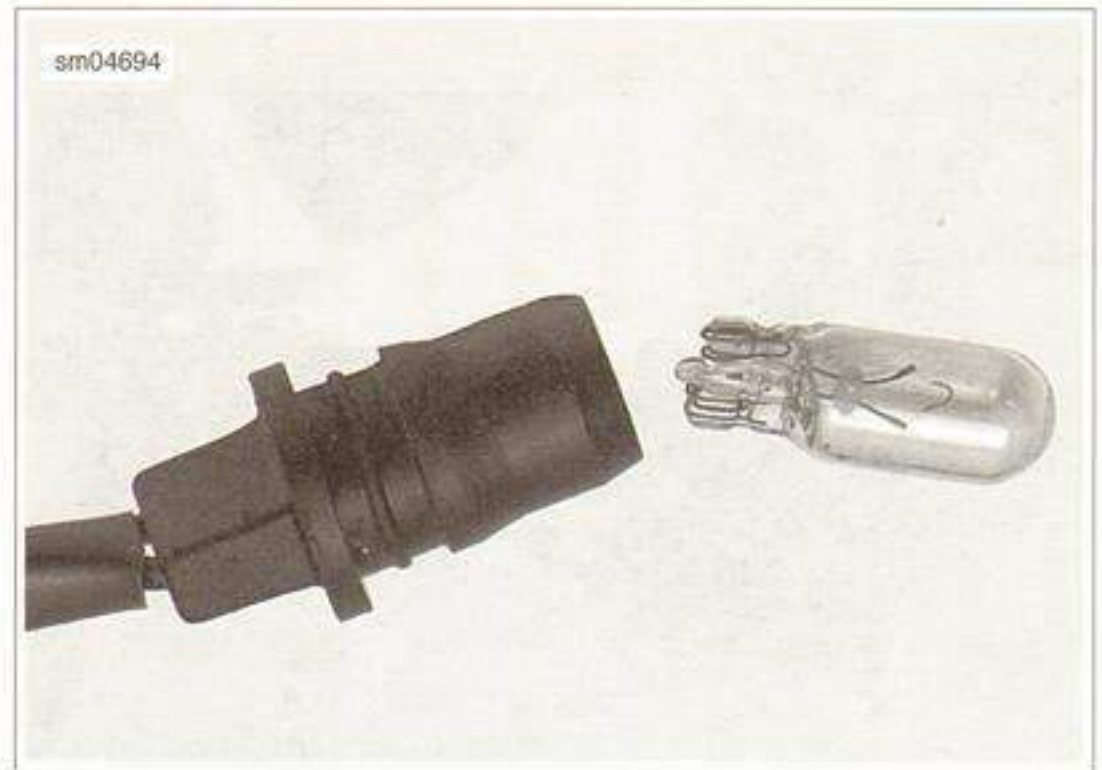

Figure 7-49. Marker Lamp Bulb and Socket
5. See Figure 7-49. Pull the bulb out of the socket.